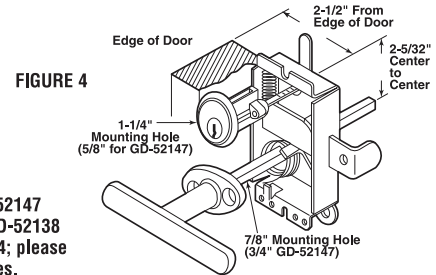

FIGURE 4
Step 3 • If the side lock is being used with the GD-52121 Handle and the GD-52139 Key Cylinder, refer to Figure 4. Install key cylinder as in "A" above. For new installations a 1-1/4" diameter hole must be drilled to accommodate the key cylinder. **(See all mounting dimensions).** If Side Lock is being used with GD-52147, no modifications are necessary.
Note: If installing the GD-52147 in combination with the GD-52138 latch, install as in Figure 4; please note hole diameter changes.